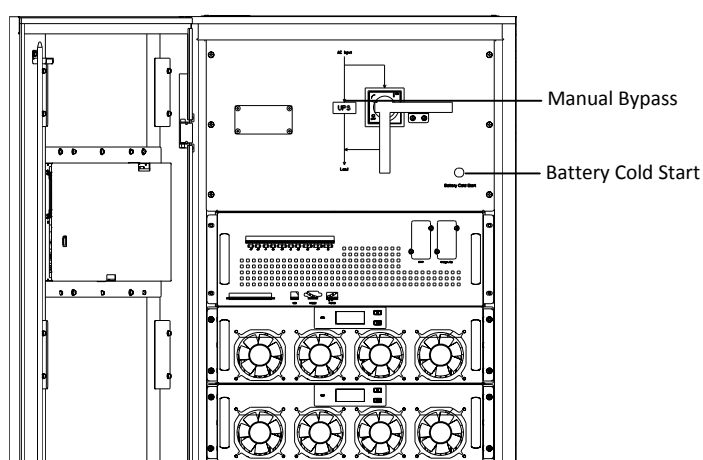

Fig.5-1 The position of the battery cold start button for 10-slot cabinet
2. Press the red button for the battery cold start (See Fig.5-1) .The system is then powered by the battery. For the 20-slot UPS, there are 2 battery cold start button, for each of the button, it can only start the power modules of its cabinet(See Fig.5-2).